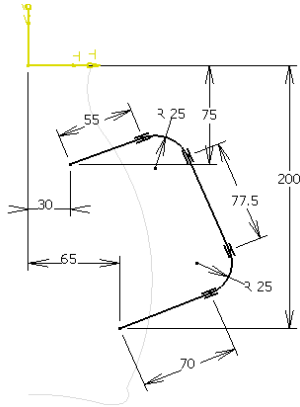

Figure 9-53 The guide for Swept surface
- Draw the sketch to create the sweep profile, refer to Figures 9-53 and 9-54.
2. Draw the profile of the guides, as shown in Figure 9-53.